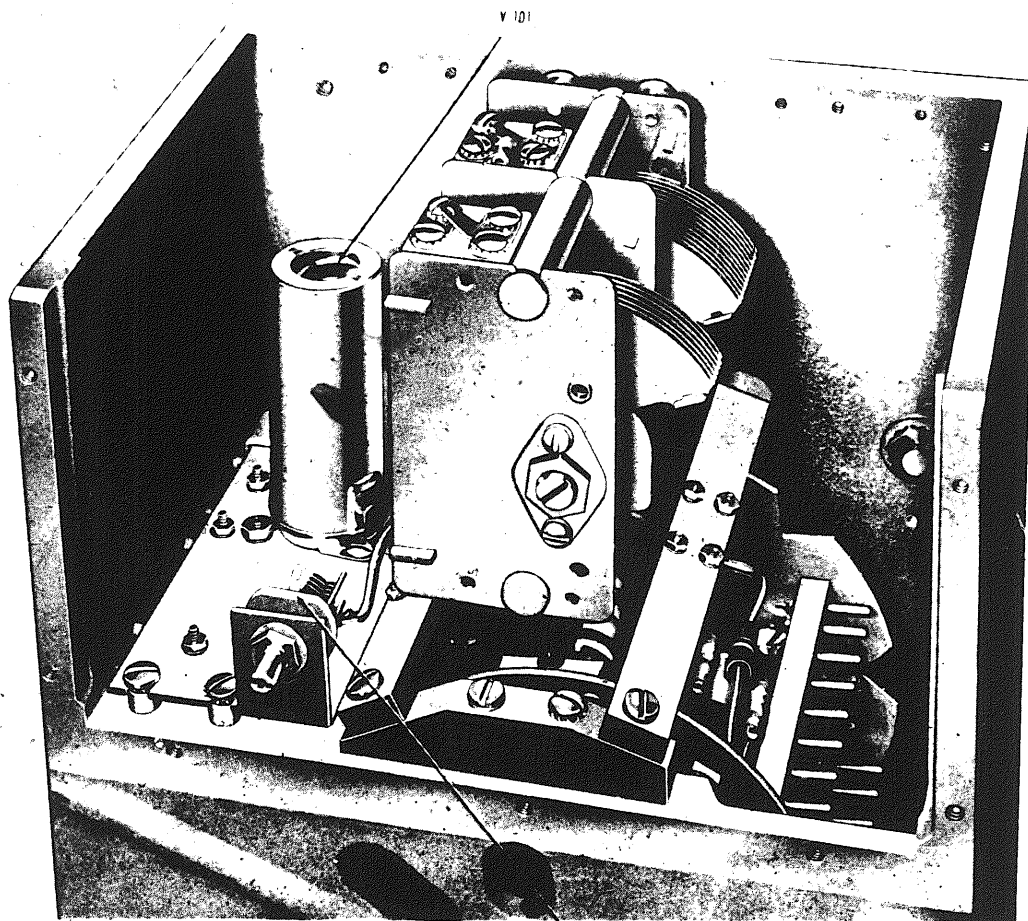

Figure VI-2 Oscillator compartment showing tube and calibration adjustment capacitor
is required to retain the full accuracy of the instrument. The procedures are described in this section. All components which require adjustment are shown in Figures VI-2 and VI-3.
*a.* Remove the nine screws which hold the cover in place on the oscillator compartment (Figure VI-2). It is suggested that the frequency control be turned clockwise so that the main variable oscillator capacitor is fully meshed to avoid accidental bending of the plates.
f. Carefully adjust C-129 (Figure VI-2) until a zero beat is heard in the calibrator headset.